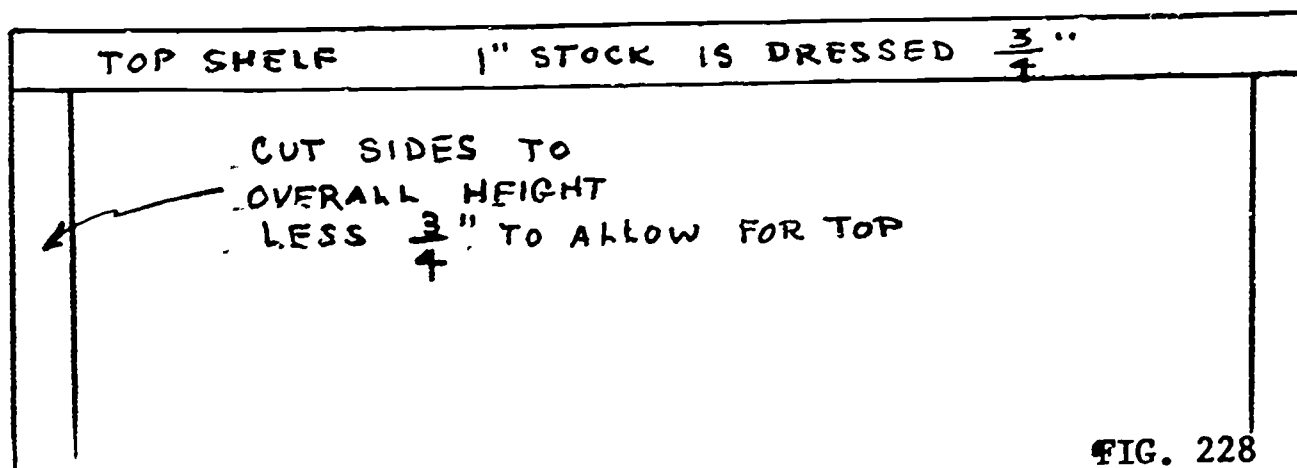

FIG. 228
6. Square up and saw to size the two sides. (36" less the thickness of the top shelf - $\frac{3}{4}$ "). One inch stock is finished at $\frac{3}{4}$ ". See figure 228.